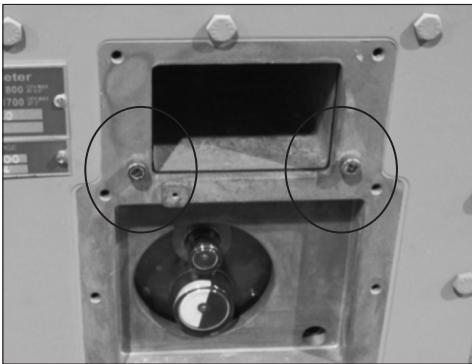

Figure 16.18 Example - Two front enclosure bolts are located under instrument housing
8. Install two (2) ¼"-20 screws in the recessed area of the housing as shown in Figure 16.18 Example. (Note: These bolts are covered by the Instrument Housing when the meter is fully assembled.) Use a 3/16" Allen wrench to tighten 7-8 ft. lbs torque.